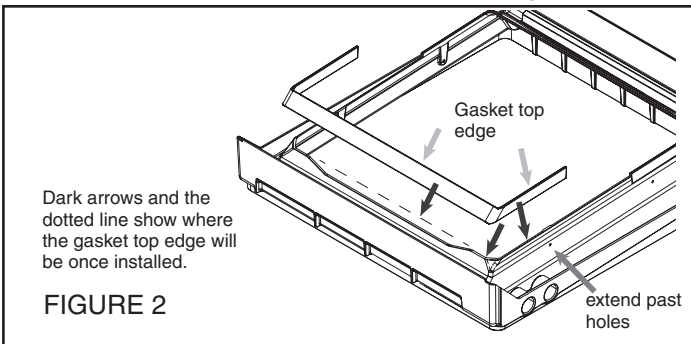

FIGURE 2
2. Apply the .25"x1" gasket material to drain pan as shown. The gasket top edge must be flush with the top of the drain pan flange. Note that in the middle where the drain pan edge is lower that the gasket goes straight across. The gasket material must wrap around each of the sides and extend just past the holes in the side of the drain pan. See Figure 2.